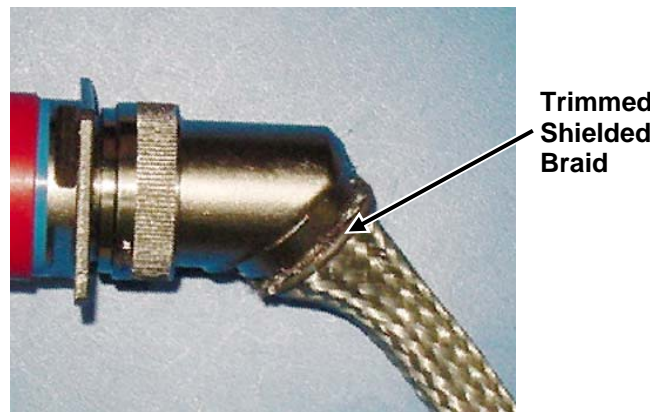

Figure 7. Trimmed Braid on Backshell
7. Trim excess braid from connector side of Tinel-Lock ring, using small scissors or a small cutter to remove all excess braid evenly around Tinel-Lock ring. See Figure 7.
8. Ensure all stray braid strands are removed from the connector side of Tinel-Lock ring, to ensure no interference with the backshell or strain-relief collar clamp. See Figure 7.